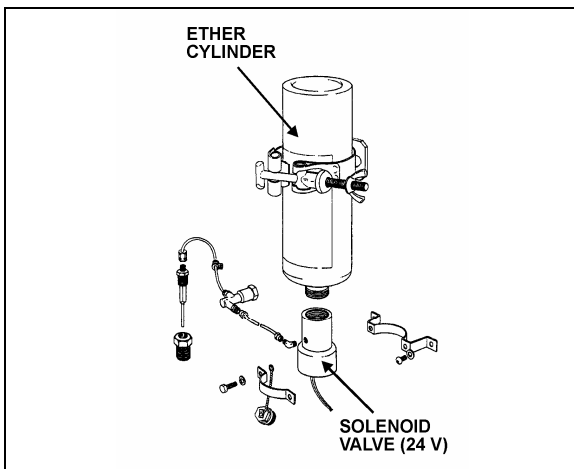

FIGURE 22: COLD STARTING AID 23048
1. Check cylinder for hand tightness and fuel supply (Fig. 22). Empty cylinder weight is approximately 17 oz (480 g); full cylinder weight is approximately 35 oz (990 g). If